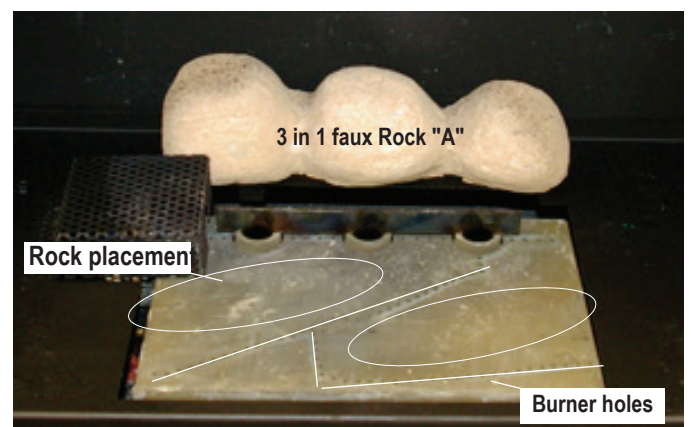
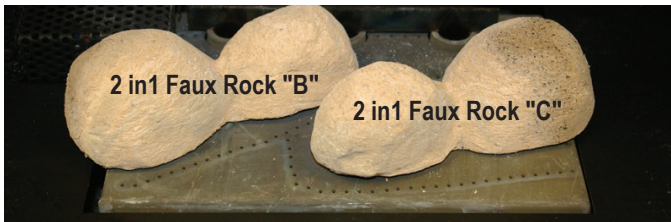

Figure 32b. Placement of faux ceramic rock "A" (flat surfaces of rock against the back and bottom pan of the fireplace). Note decreasing size of rock diameters.
Figure 32c. Placement of faux ceramic rock "B" & "C" . Note decreasing size of rock diameters toward centre of burner.
Step 2. Install Rear faux "A" ceramic 3 in 1 Rock as shown in Figure 32b.
Step 3. Next, Install Centre (2) Two faux "B" and "C" ceramic 2 in 1 Rock as shown in Figure 32c. Note: Ensure the rocks do not cover the Burner holes, (reference lines of burner holes (straight lines) and outline or rocks (ovals) shown above, Figure 32b.)
Step 4. Install Front (3) three of the supplied (5) five faux ceramic "D" Rocks as shown in Figure 32b. Note cut surfaces of Rocks.
Step 5. Install the last (2) two faux ceramic "D" Rocks as shown in Figure 32c. Note cut surfaces of Rock toward back of firebox.